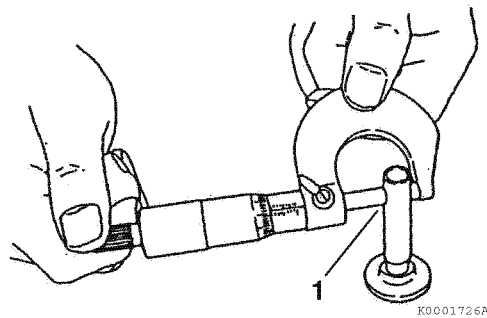

Figure 6-64
2. Measure the outside diameter of the tappet stem (1, **Figure 6-64**). See *Tappet* on page 6-13 for the service limit.